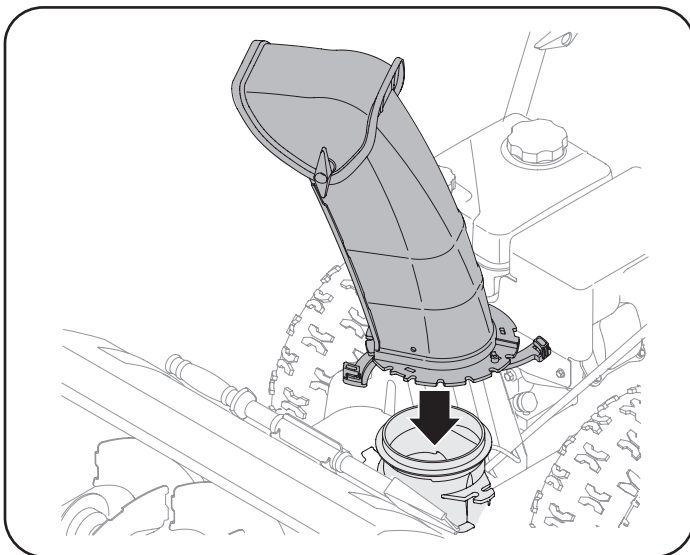

Figure 9
1. Position chute assembly over base. See Figure 9.